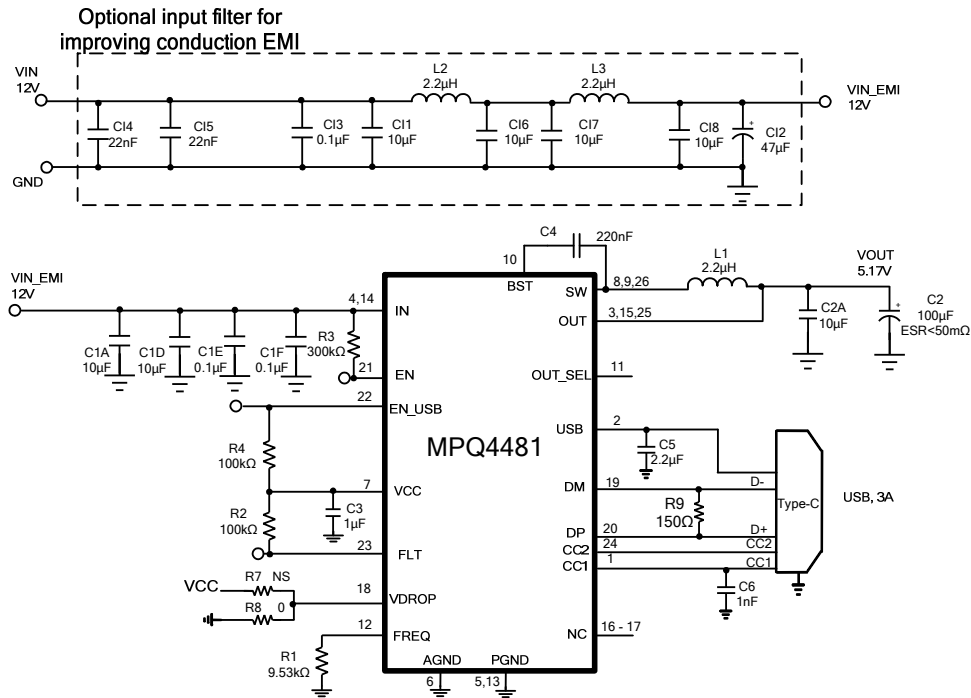

Figure 13: USB Type-C 5V/3A DFP Port ⁽¹⁰⁾
- 9) The recommended layout is based on the Typical Application Circuits in Figure 13 and Figure 14.